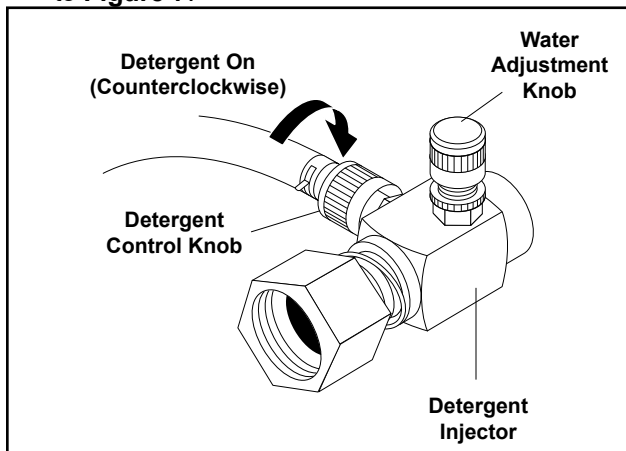

Figure 7 - Detergent Injector Valve
2. Completely open detergent control knob located on the side of the detergent injector valve. Refer to **Figure 7**.
3. Start the detergent suction by rotating the water adjustment knob of the detergent injector valve. Refer to **Figure 7**. Turning the knob counterclockwise will pull detergent into the system. The flow may be observed through the clear detergent line. Secure the knob position with the knurled nut.